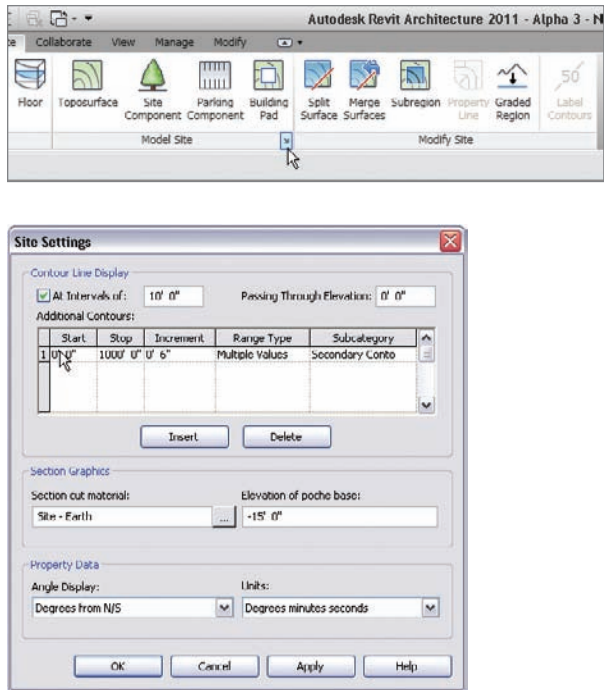

FIGURE 18.17 Changing the additional contour increment
1. Click the arrow in the lower-right corner of the Model Site panel, as shown in Figure 18.17.
2. In the Site Settings dialog, you will see a field that contains additional contours. In the Increment panel, change the value of 1' 0" to 6", as shown in Figure 18.17.